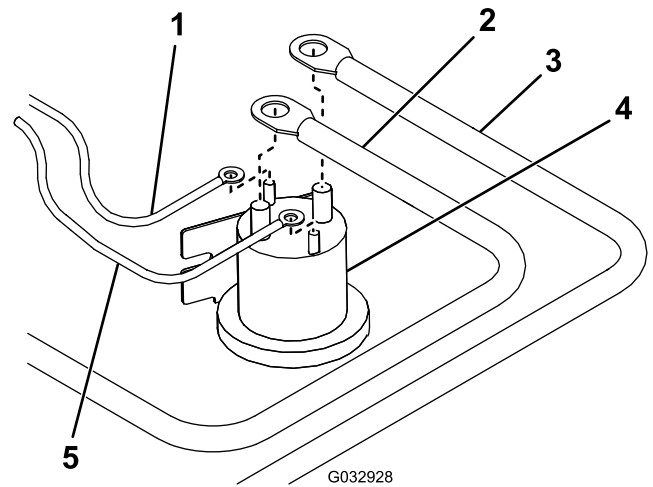

Figure 20
18. Connect the white/black wire from the wire harness to the small post on the pump solenoid (Figure 20).
19. Connect the brown wire from the wire harness to the other small post on the pump solenoid (Figure 20).
21. Connect the red power/ground cable to the large post on the pump solenoid (Figure 20).
22. Connect the battery cable to the other large post on the pump solenoid (Figure 20).